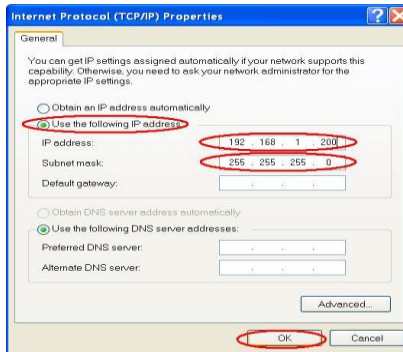

Figure A-6
**Step 5:** In the **Internet Protocol(TCP/IP) Properties** dialog box, choose **Use the following IP Address** to indicate that you do not wish to use DHCP, and assign IP Address 192.168.1.200 with Subnet mask 255.255.255.0. Click **OK** when you finish it. See Figure A-6.